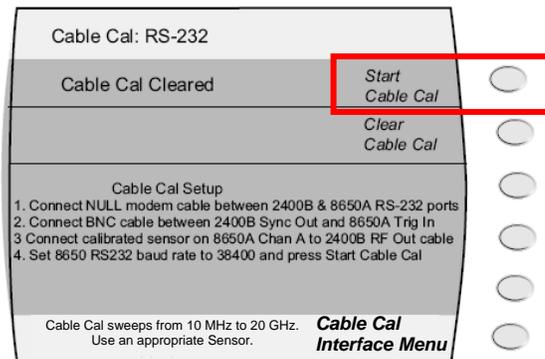

Figure 11
3. On 2400B / 2500A, press “Start Cable Cal” softkey to begin the swept frequency characterization. See figure 11.